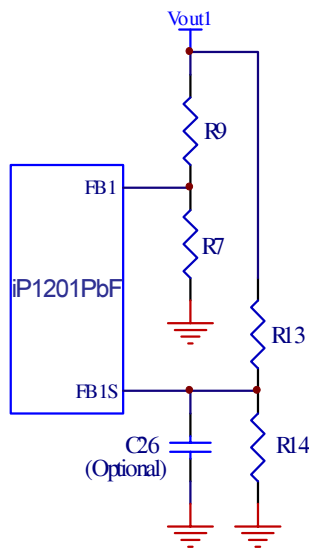

Fig. 19: Typical scheme for output voltage setting
Both outputs of the iP1201PbF. will shut down if either one of the outputs experiences a voltage in the range of 115% of V_{OUT} . The overvoltage sense pins FB1s and FB2s are connected to the output through voltage dividers, R_{13} and R_{14} (Fig. 19), and the trip setpoints are programmed according to equation (1). Separate overvoltage sense pins $FB1_s$ and $FB2_s$ are provided to protect the power supply output if for some reason the main feedback loop is lost (for instance, loss of feedback resistors). If this redundancy is not required and if Type II control loop compensation scheme is utilized, $FB1_s$ and $FB2_s$ pins can be connected to FB1 and FB2 pins respectively. An optional 100pF capacitor (C_{26}) is used for delay and filtering purposes.
When selecting output capacitors, it is important to consider the overshoot performance of the power supply. If the amount of capacitance is not adequate, then, when unloading the output, the magnitude of the overshoot due to stored inductor energy, and depending on the speed of the response of the control loop, can exceed the overvoltage trip threshold of the iP1201PbF and can cause undesirable shutdown of the output. The magnitude of the overshoot should be kept below $1.125V_{OUT}$. To prevent the overshoot from tripping the output a delay can be added by installing capacitor C26 as shown in Fig.19.
From Fig.19 the transfer function $H(s)$ of the error amplifier is given by (9):